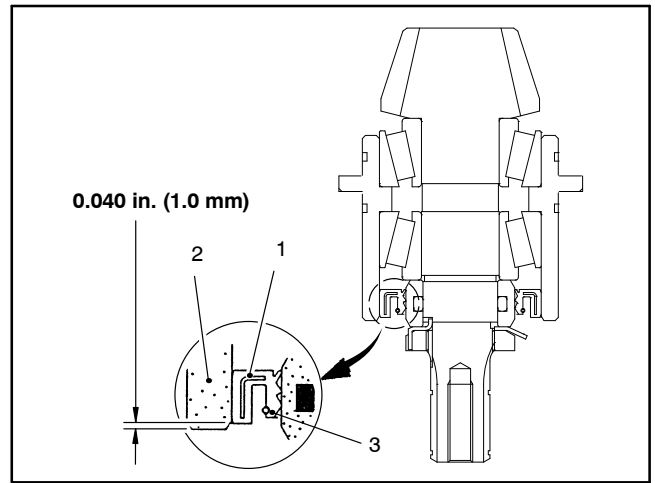

Figure 31
3. Coat a new oil seal with grease and install as shown (Fig. 31). The seal should be installed with the garter spring towards the hydraulic motor location.